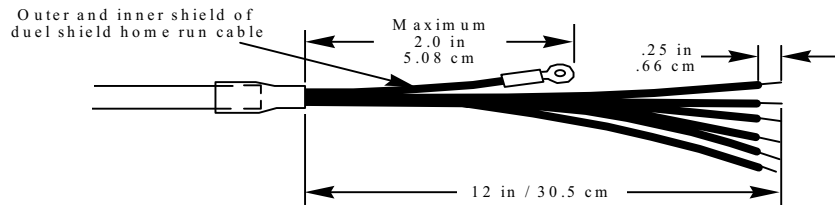

Figure 2-c: Load Cell Cable Preparation
1. Prepare the *PUMA* terminal end of the load cell cable as shown below in Figure 2-c. Strip the cable jacket and shield 12 in. (30.48 cm).
2. Insert the cable into the enclosure through the load cell grip bushing and grommet until the outside jacket end is flush with the inside edge of the grip bushing as shown in Figure 2-d.